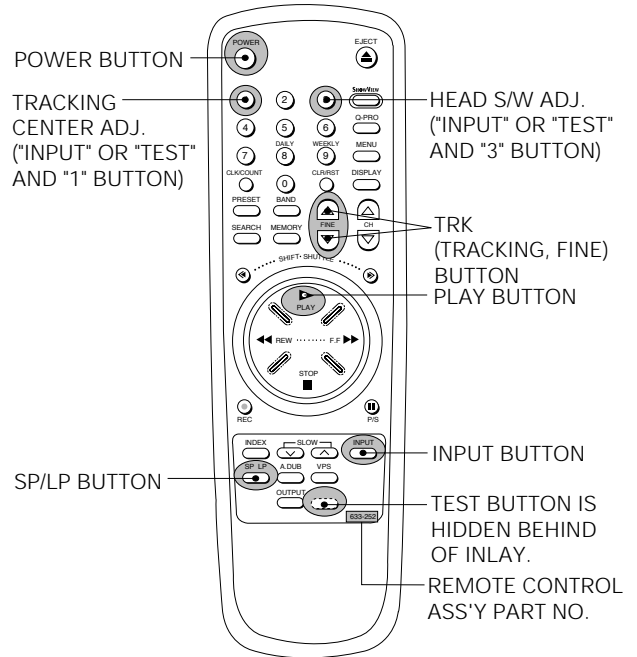
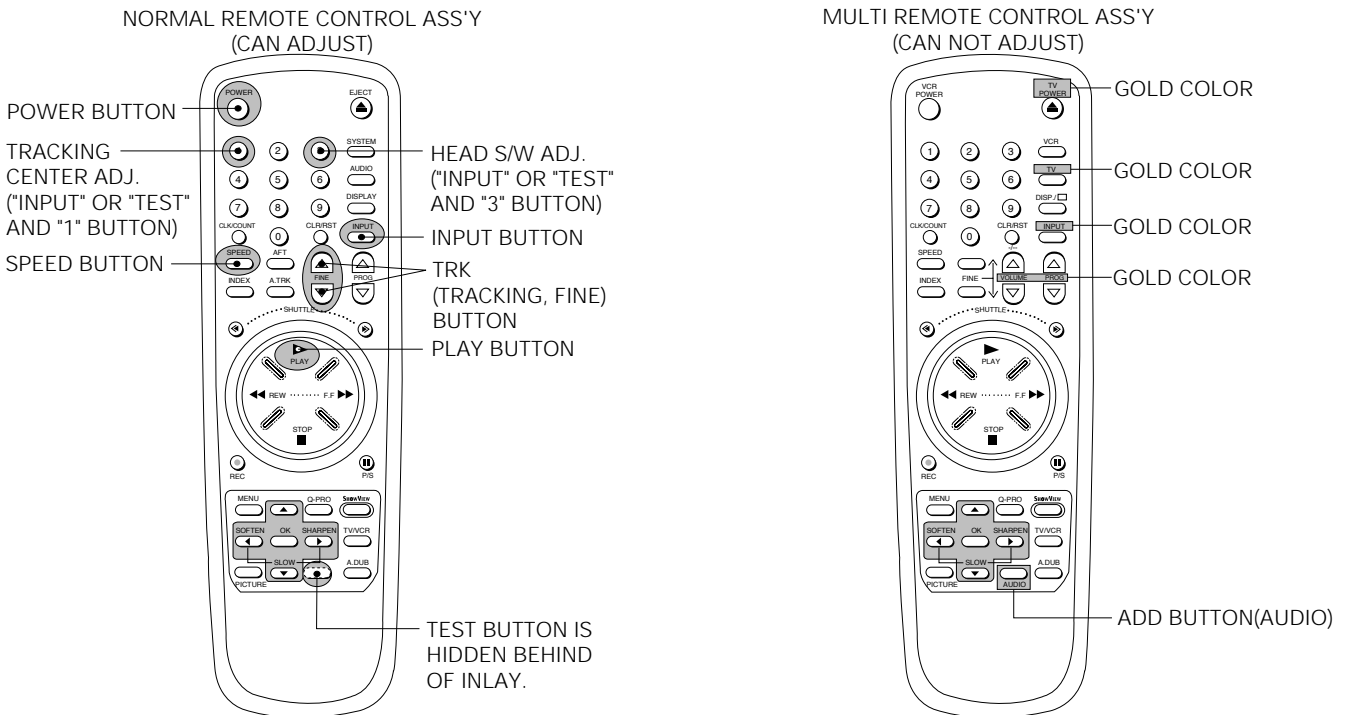

Fig. 5-1 Remote Control Ass'y Jig for X-5/X-6 Chassis (AC93-10039Y/69099-633-252)
Fig. 5-2 Remote Control Ass'y for X-7/X-8 Chassis
1. Remote control ass'y (AC93-10039Y/69099-633-252) is specified as a service jig in the service manual of X-5/X-6(DX5-R/DX5-RC/DX6-R/DX6-RC) chassis. (See Fig. 5-1)
2. Normal remote control ass'y for X-7/X-8 (DX7-R/DX7-RC/DX8-R/DX8-RC) chassis. (See Fig. 5-2)
5-1-2 How to identify between normal remote control ass'y and multi remote control ass'y for X-7/X-8 chassis (See Fig. 5-2)
1. Disattach the inlay of remote control ass'y. (See Fig. 5-1 and Fig. 5-2)
2. Press the "TEST" button with the pincers and the precise driver as shown in Fig. 5-1 and 5-2)
(See Fig. 5-1 and Fig. 5-2)